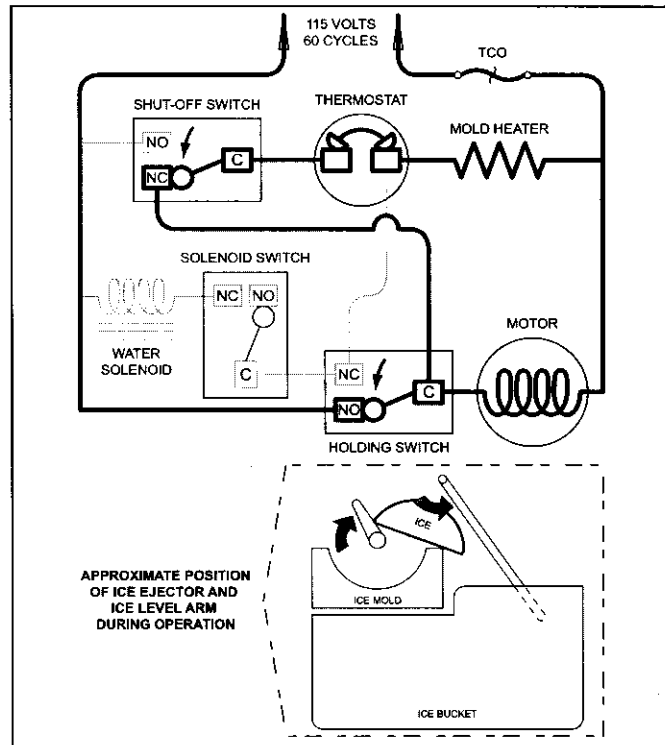

Figure 6-14. Start of Second Revolution
**Start of Second Revolution (See Figure 6-14)**